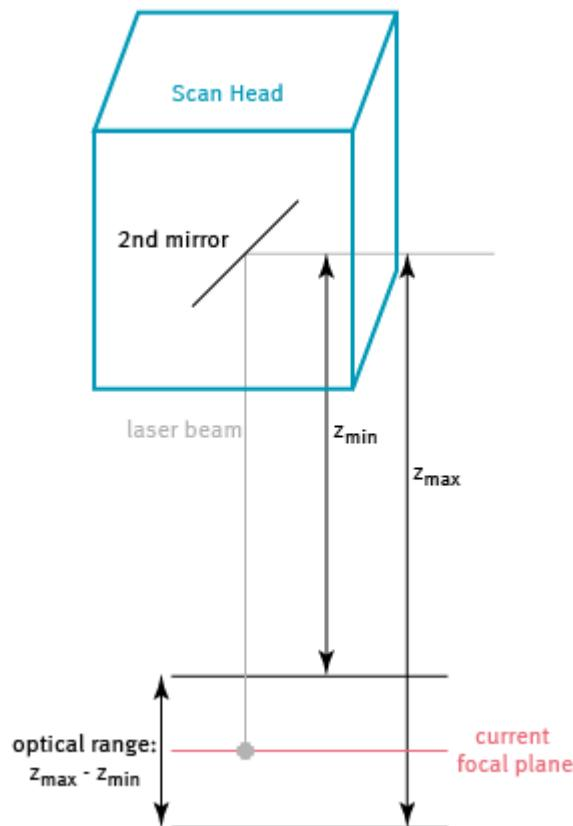

Figure 81: Illustration of optical range and distance 2nd mirror to focus.
- Set **Distance 2nd mirror to focus [mm]**: This value defines the focus distance for SAMLight Z=0mm. This value has to be inside the **Focus distance [mm]** range of the Z lookup table (see figure 81). Please note that this distance is NOT the distance between the focus and the case of the scan head but between the focus and the position of the 2nd mirror inside the box of the scan head.